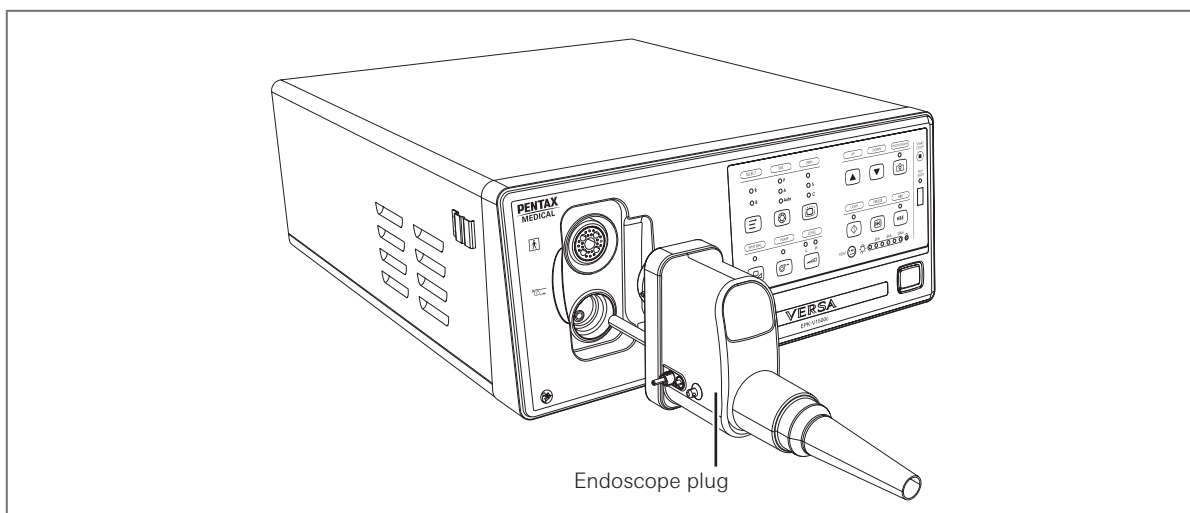

Figure 3.3
4. Insert the light guide connector into the scope socket on the front panel of the light source until it clicks into place (see Figure 3.3).